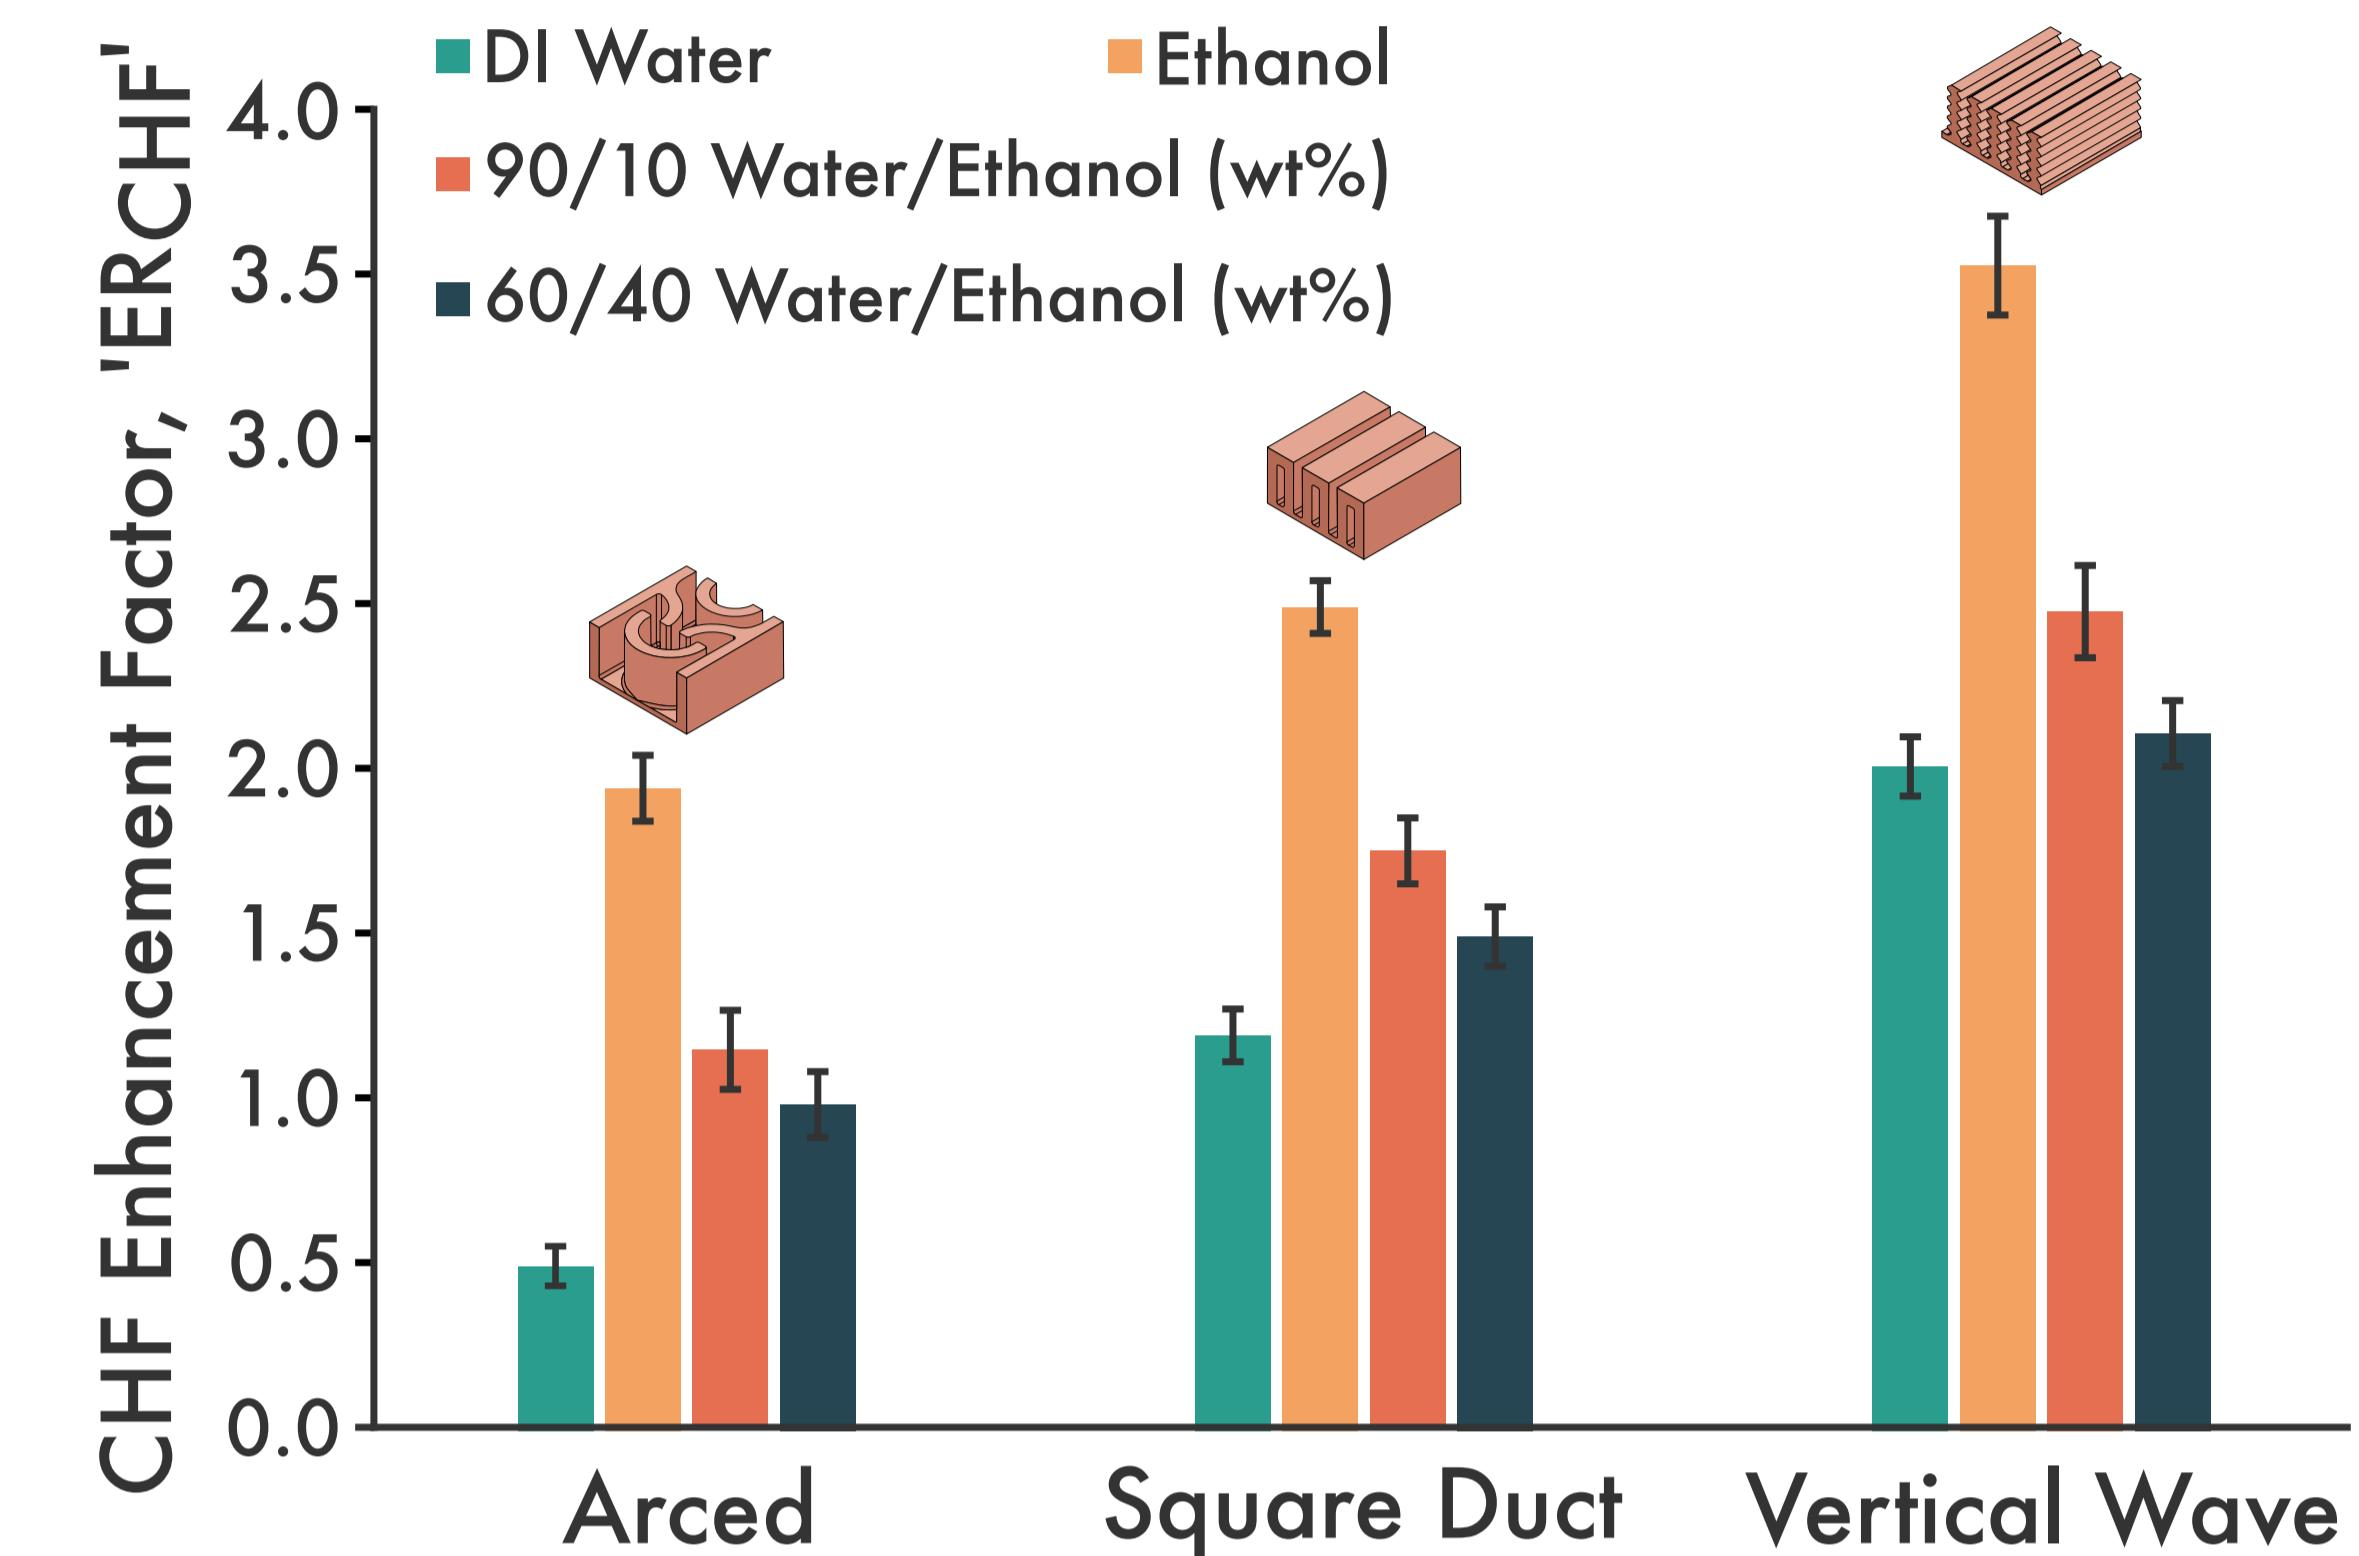

Figure 7. ER_{CHF} of 3D-Printed Surfaces with Different Working Fluids.
- Vertical wave surface achieved the highest CHF enhancement factor ($ER_{CHF} \approx 3.53$) with ethanol (Fig. 7).